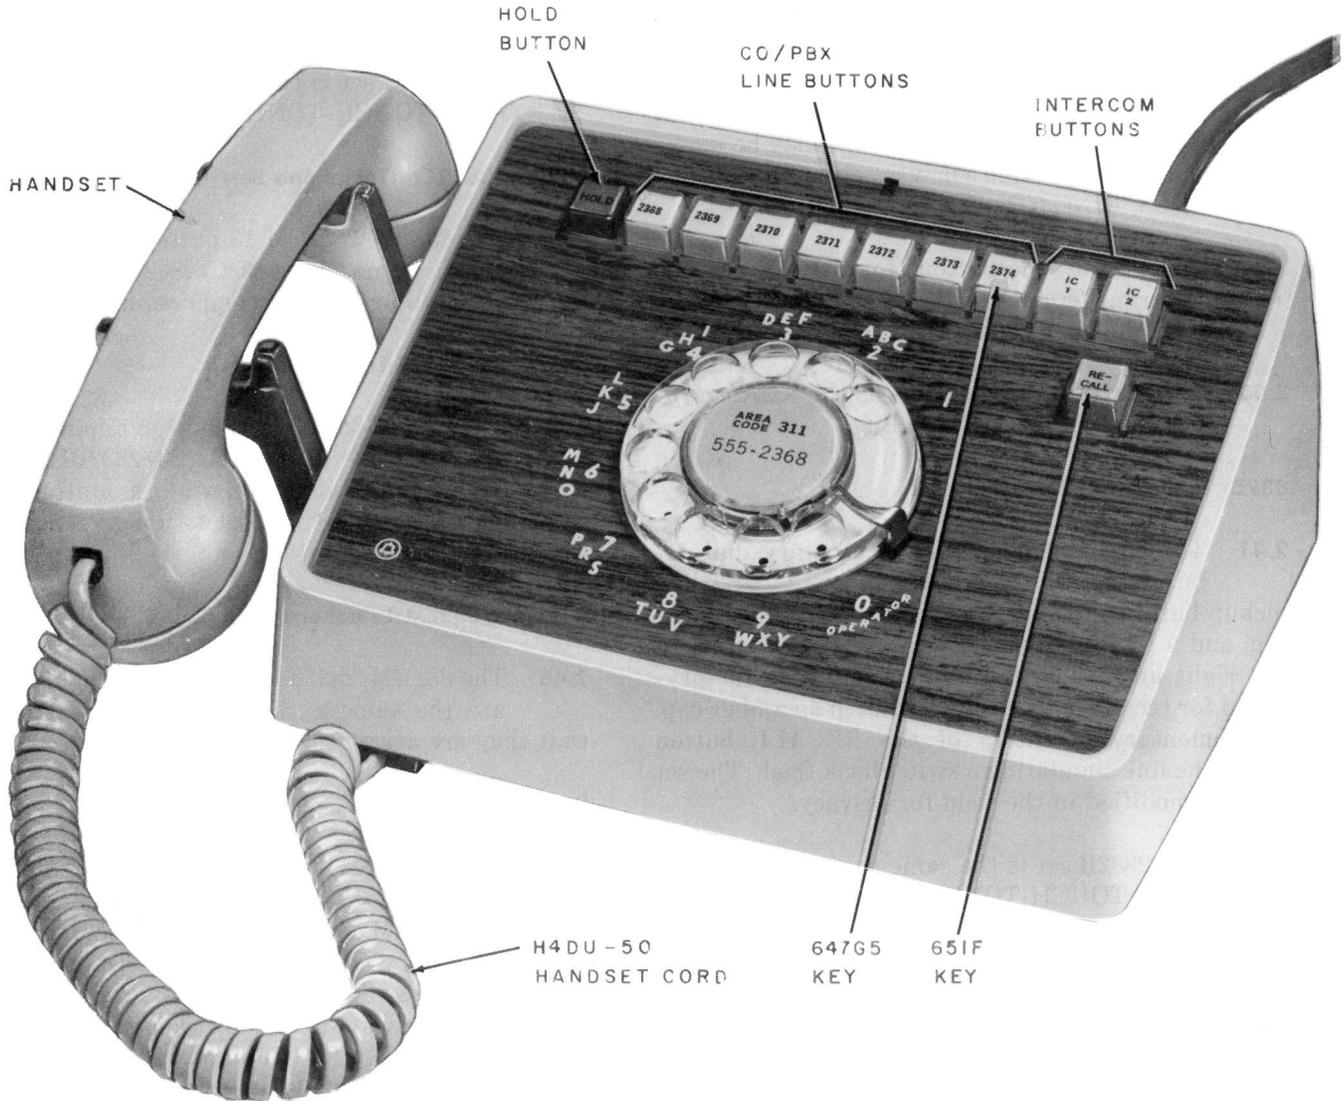

Fig. 7—832BM-50 Telephone Set
**832BM/2832BM Telephone Sets (Fig. 7)**
**2.43** The 832BM/2832BM 11-button telephone sets are the same as the 832B/2832B (MD) sets except that modular handset components are added.
**832C/2832C (MD) Telephone Sets**